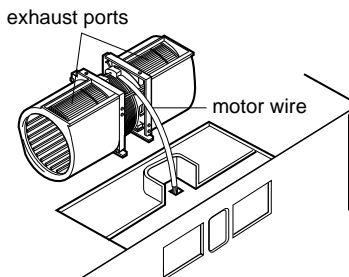

Figure 12
4. Keep the motor wire being connected, lift up, rotate and reattach the motor so that the exhaust ports face the upper of the cabinet. See figure 12.